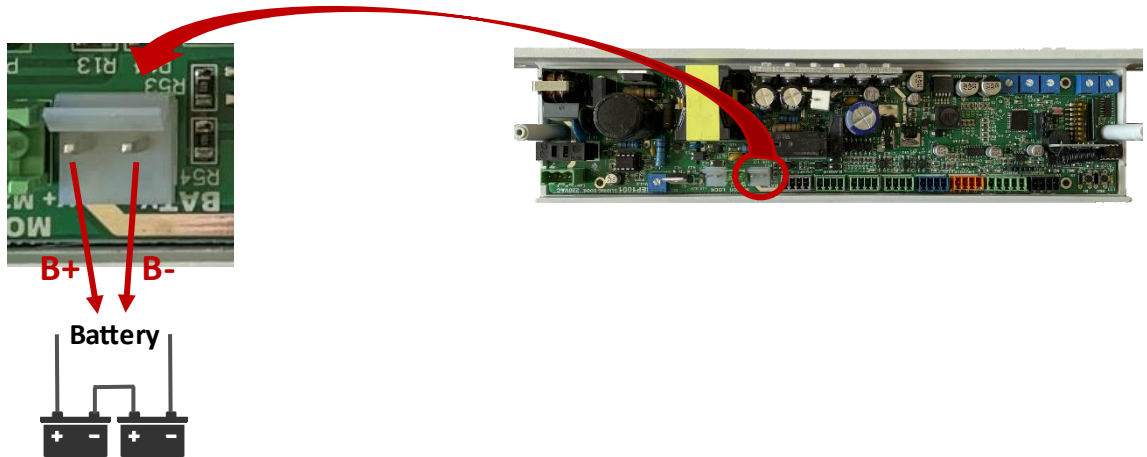

Figure 8: The position of the battery outputs on the card and a close-up view.
- 7) **Battery Output:** They are the 2 x 12VDC 2A battery outputs where two batteries can be connected in series. It is indicated in Figure 8.